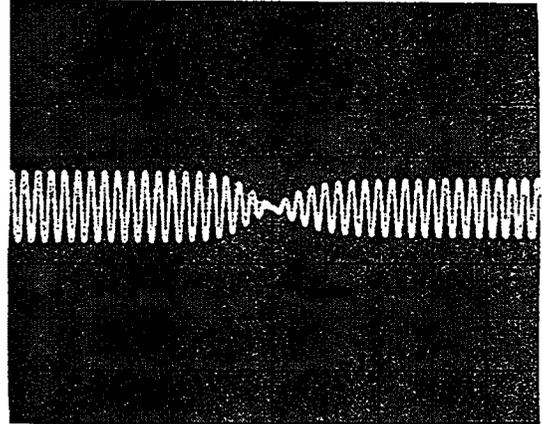

FIGURE 6-25 LOOP SIGNAL (TP 201)
- f. Verify proper operation per Figure 6-25.